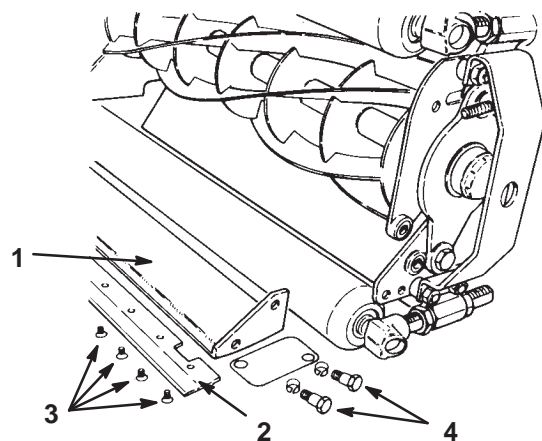

Figure 26
2. Remove the mounting screws for the bedknife and separate the bedknife from the bar (Fig. 26). Discard the screws.